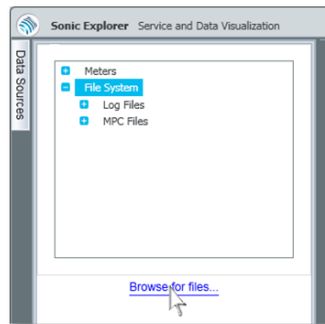

Figure 18-1 File system
- ▶ Click on: Browse for files... (see Figure 18-1).